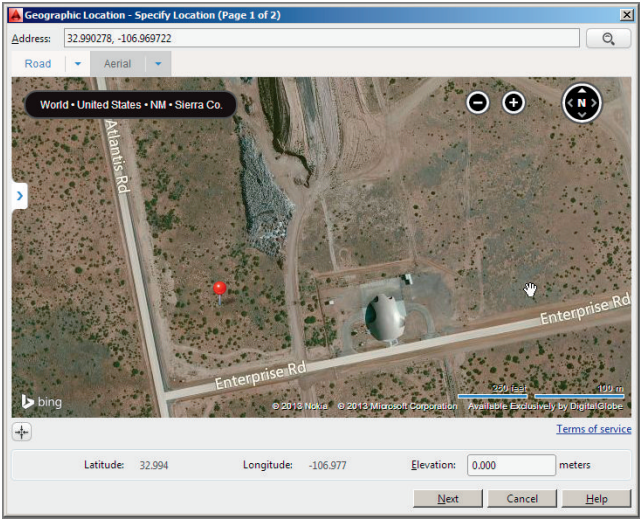

FIGURE 15.2 Selecting a geographic location with aerial maps
1. Select the ribbon's Insert tab, open the Set Location flyout in the Location panel, and choose From Map. Use the navigation controls located in the upper right of the map in the Geographic Location dialog box to locate a hypothetical site for this structure. When you have zoomed in sufficiently to settle on a site location, right-click and choose Drop Pin Here from the context menu. A red pin icon appears on the map at the location where you right-clicked (see Figure 15.2).